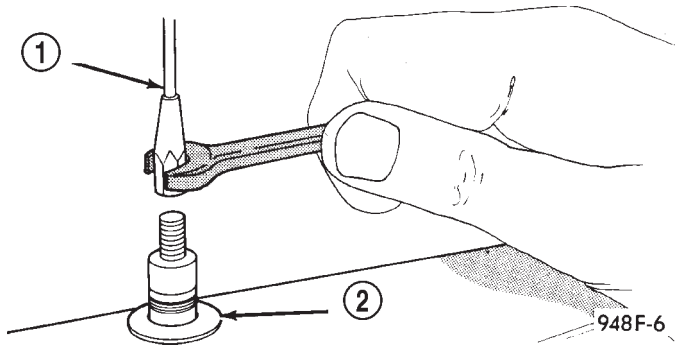
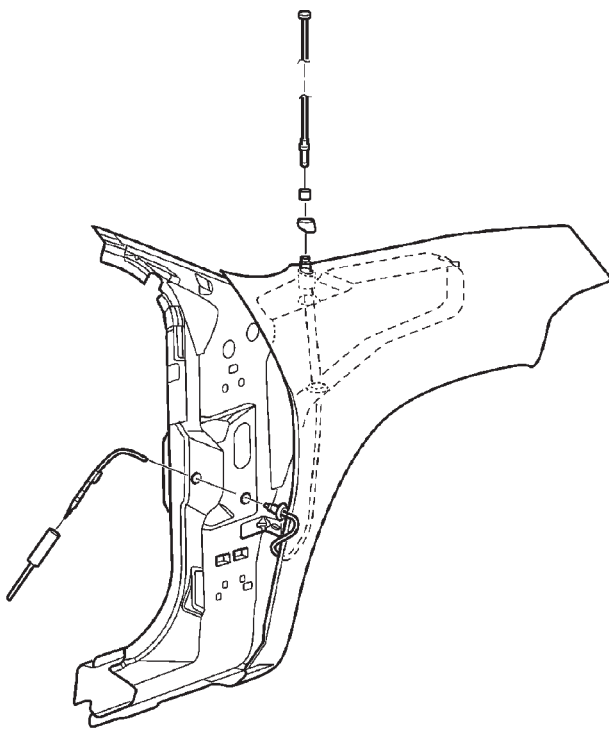

Fig. 7 Antenna Mast Removal - Typical
Fig. 8 Mast and Antenna Assembly Mounting
(1) Remove antenna mast by unscrewing mast from antenna body (Fig. 7).
(2) Locate the antenna lead disconnect in the instrument panel wire harness above the right cowl trim panel. Disconnect the antenna cable from the instrument panel cable lead.
(3) Unfasten push pins from the rear of the plastic inner fender shield and move shield to gain access to mounting screws (Fig. 8).
(4) Remove mounting screws and remove antenna base and cable assembly from under the fender.